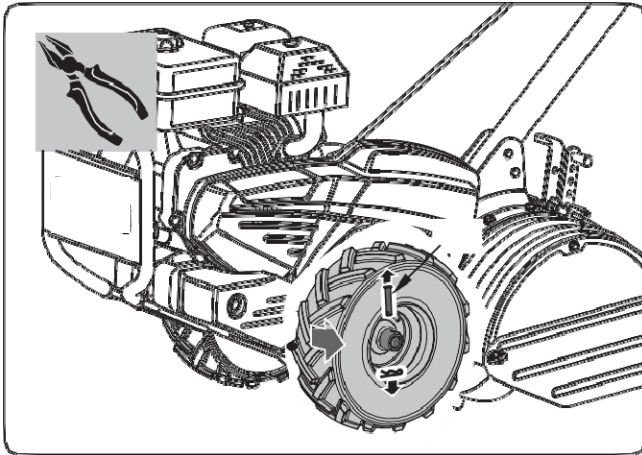

Figure 16
1. Securely prop the machine up so that the wheel on the opposite side of the engine is 1 inch off the work surface. Remove the shear pin and wheel from belt guard side of the machine, opposite side of the engine. (see Figure 16)